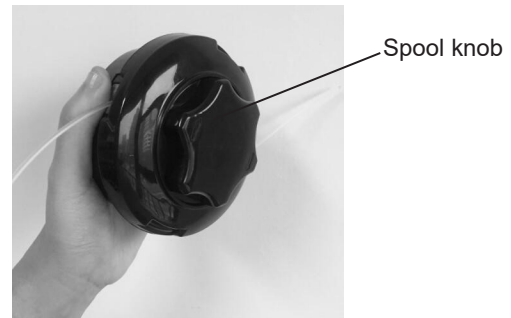

Fig. 3
- Turn the spool knob in a clockwise direction (see arrows on the top of the knob) until the line is wound to the proper cutting length. (See Fig. 3)